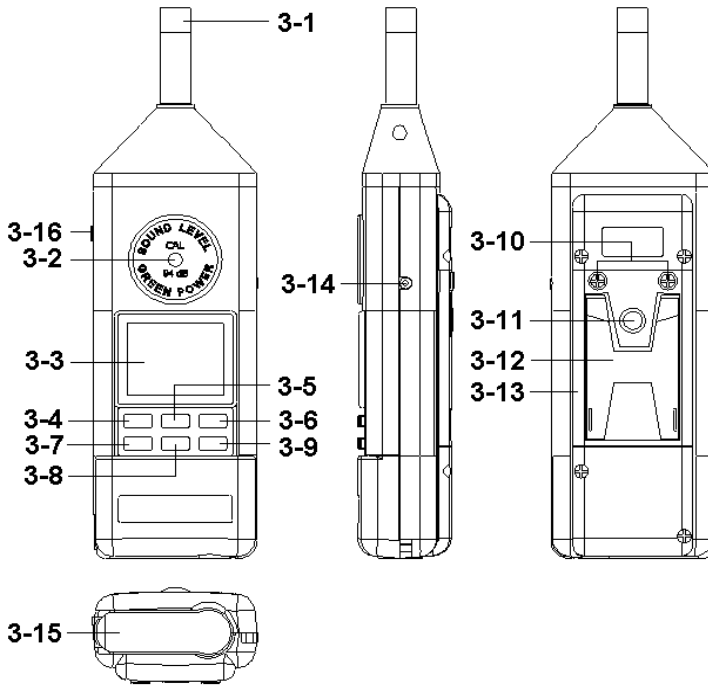

Fig. 1
Slide the " Power type switch " (3-16, Fig. 1) to the " G " position, the meter will offer the power source from the Handy generator (Green power), battery is no need.
- 1) There is a " Power generator's handle " (3-15, Fig. 1) on the bottom of the housing case.
Install the DC 9V battery into the " Battery compartment " (3-13, Fig. 1)
- 1) Power on by pressing the " Power On/Off Button " (3-4, Fig. 1) , the meter's default function is " Auto range ", " A frequency weighting " & " Fast time weighting ". The lower LCD display will show the unit " A. Fast Auto " .
- 2) Select " A " or " C " frequency weighting by pressing the " A/C Button " (3-8, Fig. 1) .
- 3) Determine proper measuring range by pressing the " Range Button " (3-9, Fig. 1).
- 4) According to various measuring sound source, select the Time Weighting (Fast or Slow) by pressing the " Time Weighting Button " (3-7, Fig. 1).
If intend to maintain the peak value, press the " F/S/P.H. Button " (3-7, Fig. 1) once in sequence until a " P.H " symbol will show on the top LCD display.
During the measurement, pushing the " Hold Button " (3-5, Fig. 1) will hold the measured value & the LCD will indicate " H " symbol.
* The data record function displays the maximum and minimum readings. To start the DATA RECORD function, press the " REC. Button " (3-6, Fig. 1) once. " REC " symbol will appear on the LCD display.
a) Push the " REC. Button " (3-6, Fig. 1) once, the " REC Max " symbol along with the maximum value will appear on the display.
If intend to delete the maximum value, just press the " Hold Button " (3-5, Fig. 1) once a while, then the display will show the " REC " symbol only & execute the memory function continuously.
b) Push the " REC. Button " (3-6, Fig. 1) again, the " REC Min " symbol along with the minimum value will appear on the display.
If intend to delete the minimum value, just press the " Hold Button " (3-5, Fig. 1) once a while, then the display will show the " REC " symbol only & execute the memory function continuously.
To de-activate this feature, Select the memory record function during measurement, by pressing the " REC. Button " (3-6, Fig. 1).
The instrument is provided an 3.5 mm dia. phone socket (3-14, Fig. 1) for RS232 computer interface socket.
Loose the " Screws for battery cover " (3-10, Fig. 1) and open the " Battery Cover " (3-13, Fig. 1) away from the instrument and remove the battery.